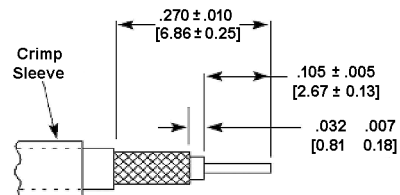

Figure 1
STEP 1. Slide ferrule over jacket and strip cable per Figure 1.